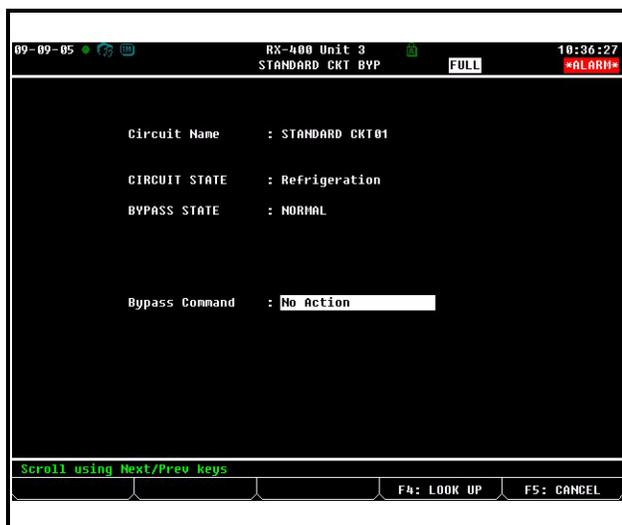

Figure 11-14 - Circuit Bypass Screen (RX-400 Version Shown)
- The Circuit Bypass screen (see *Figure 11-14*) will display the circuit name, its current state, and the bypass state. The **Bypass Command** field will be highlighted.